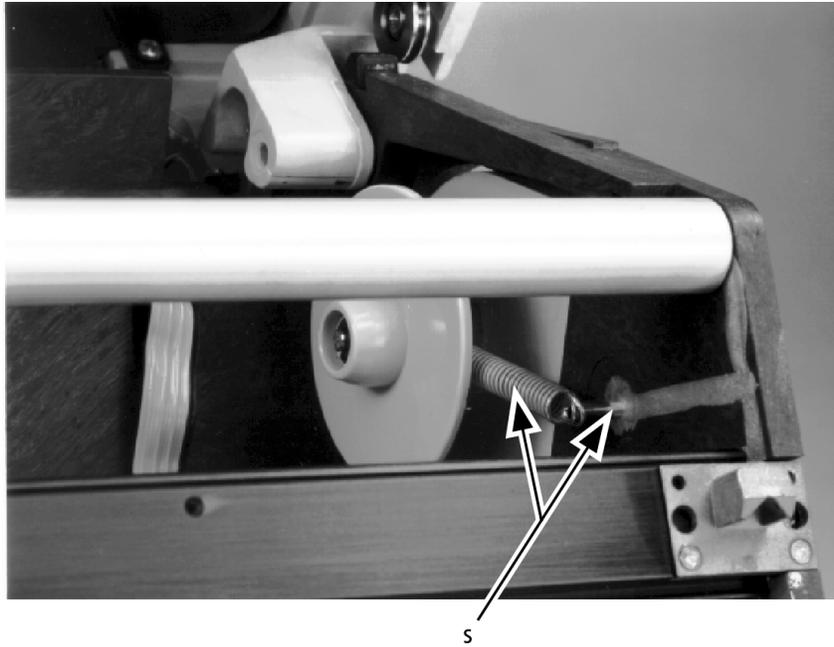

Figure 5.12.3i
- s Pay-off door access spring and roll pin (figure 5.12.3i)